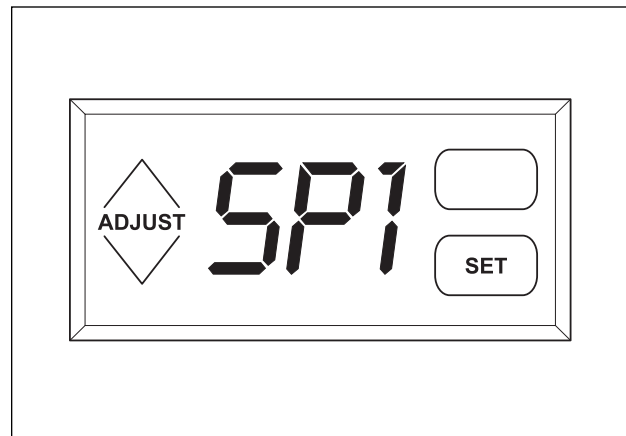

Figure 7. Controller
6. To set the controller to the desired temperature press "Set" button once; unit will display "SP1." See Figure 7.